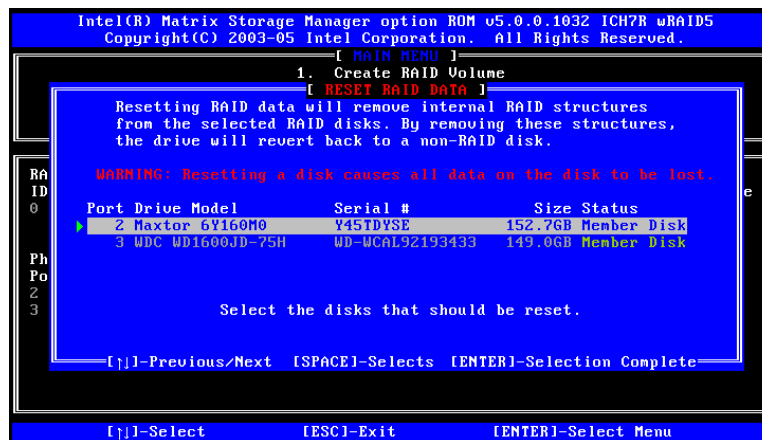

Figure E-13: Select Disk to Reset
Step 2: Select Disks to Reset. Use the arrow keys to scroll through the disk drives and press **SPACE** to select which drives are to be reset as non-RAID. After all the disks to be reset have been chosen, press **ENTER**. See **Figure E-13**.